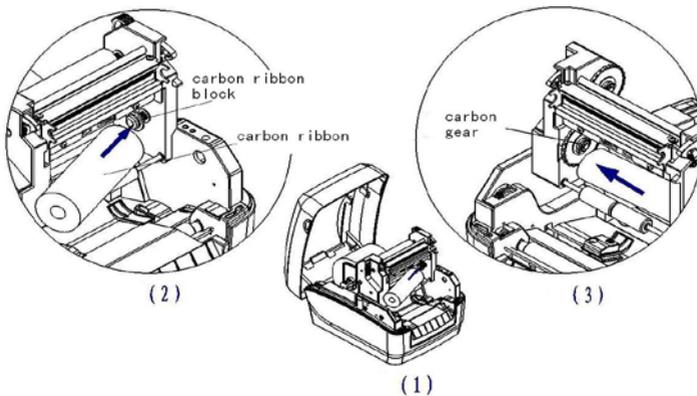

Figure 2.3.1
- 1) Refer to figure 2.3.1, firstly rotate the ribbon holder to the position as shown in Figure 1, insert the ribbon into the end cap of ribbon in the direction shown in Figure 2 and then insert the other end of ribbon into the ribbon thumb wheel as shown in Figure 3. Then pull the ribbon towards outside slightly and you can feel that there is elastic recovery force, which indicates that the ribbon of releasing shaft has been installed (see figure 2.3.1);